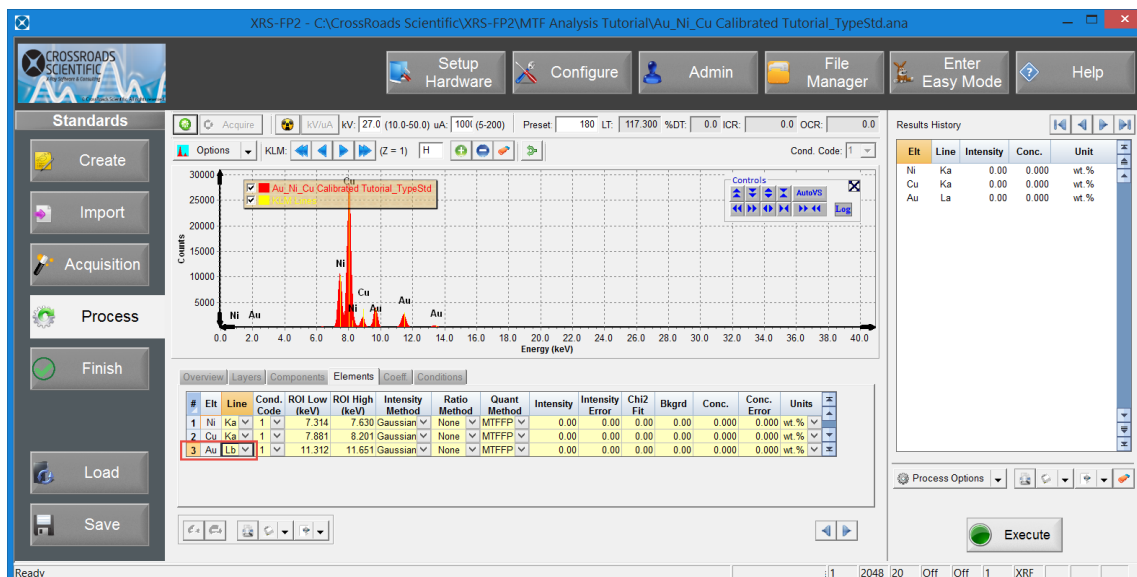

**Figure 4. Standards Workflow – Spectrum Import.** Open the “0.510 Au 3.002 Ni\_Cu – adjusted.mca” file for the single type standard.
11. At this point we can either import or acquire a spectrum. For this tutorial select the **Import** button and then choose the “0.510 Au 3.022 Ni\_Cu – adjusted.mca” file. Then select the **Execute** button to load this spectrum. Note that spectra supplied for this tutorial have already been energy adjusted (calibrated). See Figure 4 below.